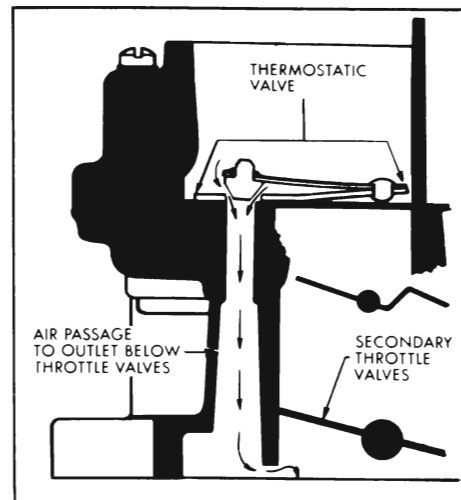

Figure 3-38—Thermostatic Valve Assembly
To compensate for loss of engine RPM while idling under very hot operating conditions, a thermostatic valve assembly is installed in the web between the right and left secondary venturi. When the temperature rises beyond a certain point, the calibrated thermostatic spring opens the valve. This allows additional air to flow through a special passage to an outlet below the secondary throttle valves. At normal operating temperatures, the valve should be closed. The thermostatic valve cannot be adjusted or repaired; therefore, a faulty valve must be replaced. See Figure 3-38.
11. Remove thermostatic valve and gasket. See Figure 3-38.
3. Install thermostatic valve using new gasket. See Figure 3-38.